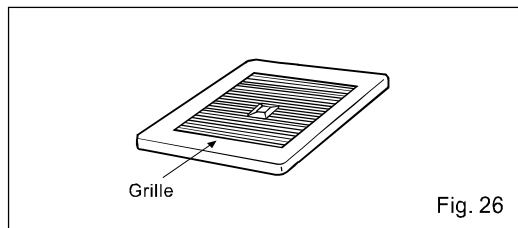

Fig. 26
3. The grille should be dry after cleaning. (Fig. 26)